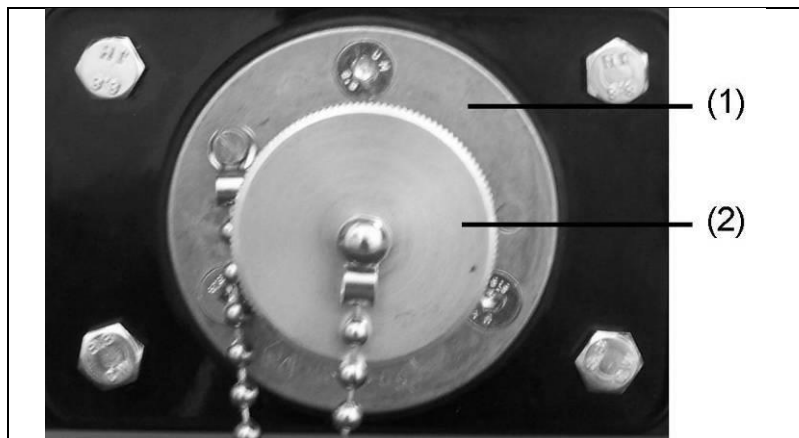

Figure 5-7: Connecting up the battery charge retention device
1. Unscrew cover (Figure 5-7-(2)) for socket (Figure 5-7-(1)) for the starter battery charge conservation device.
2. Screw on protective cap (Figure 5-7-(2)) for charge conservation device socket.